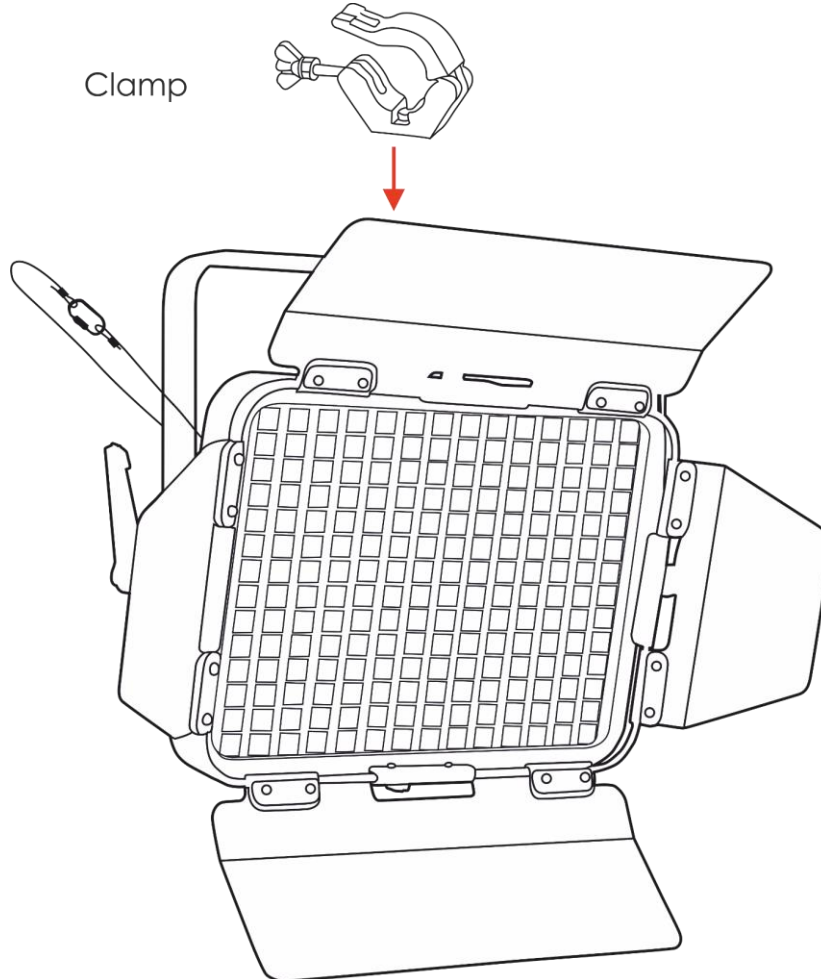

Fig. 06
- 02) Secure the device with a secondary suspension, for example a safety cable. Make sure that the secondary suspension can hold 10 times the weight of the device. If possible, the secondary suspension should be attached to a supporting structure independent of the primary suspension. Put the safety cable through the **mounting bracket (02)**, as shown in Fig. 06.